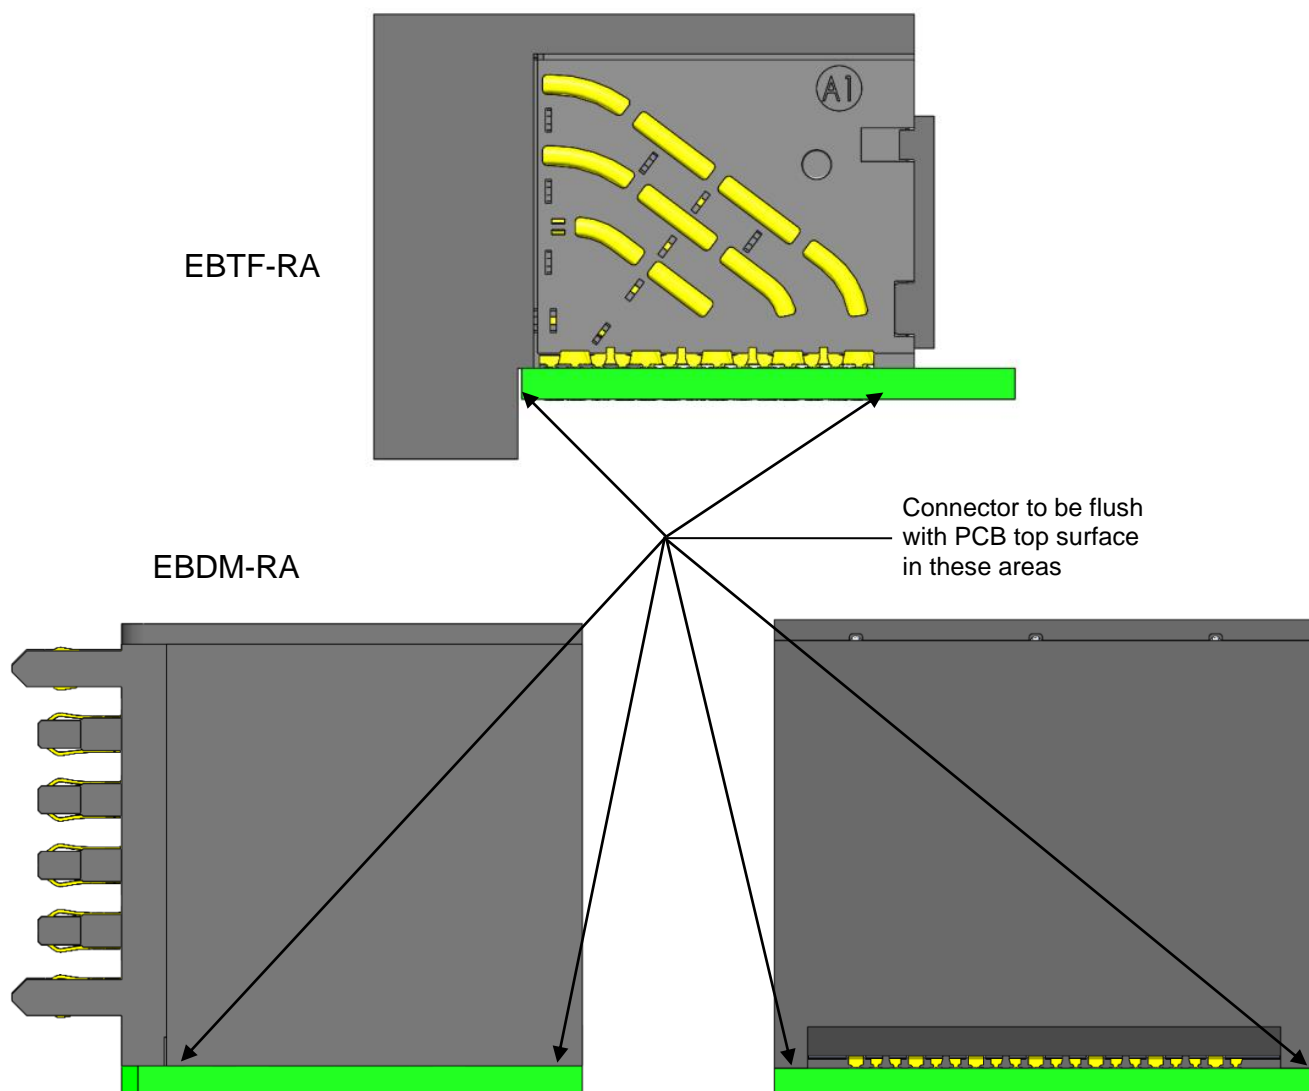

Figure 31: Proper Seating after Board Application
- Using a flat rock surface and an insertion press, apply force to the flat area of the connector as shown in Figure 31.
- Visually check that the standoffs on the bottom of each assembly are seated flush and parallel with the PCB surface (see Figure 31). Once fully seated, there may be some minor gaps (<0.1 mm) due to component tolerances.